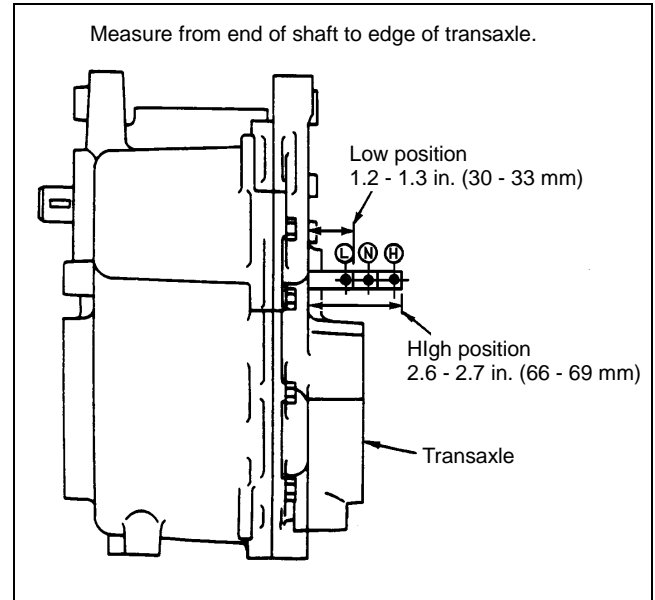
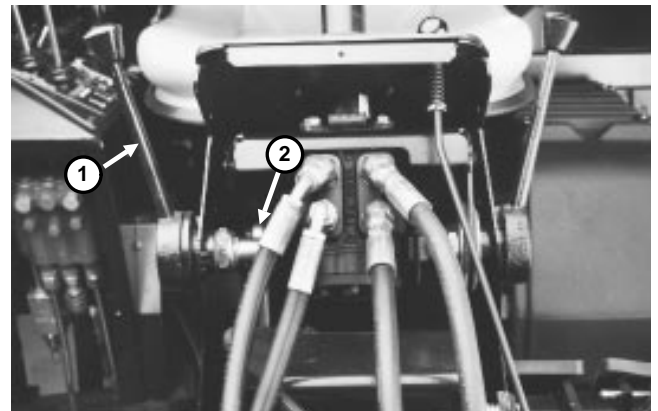

Figure 13
Figure 14
2. Move axle shift lever forward to transport (high speed) position. Measure shaft dimension from side of transaxle case to end of shaft (Fig. 13). Adjust upper linkage length at top eye rod if necessary to get proper dimension (Fig. 14).